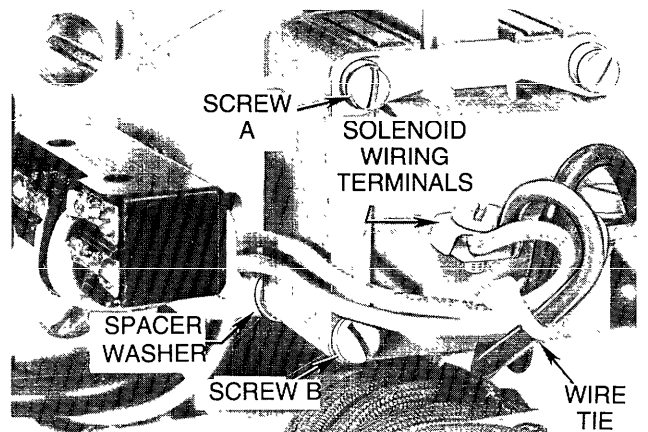

Figure 7.
3. Cut off wire tie and disconnect leads from solenoid wiring terminals Figure 7.